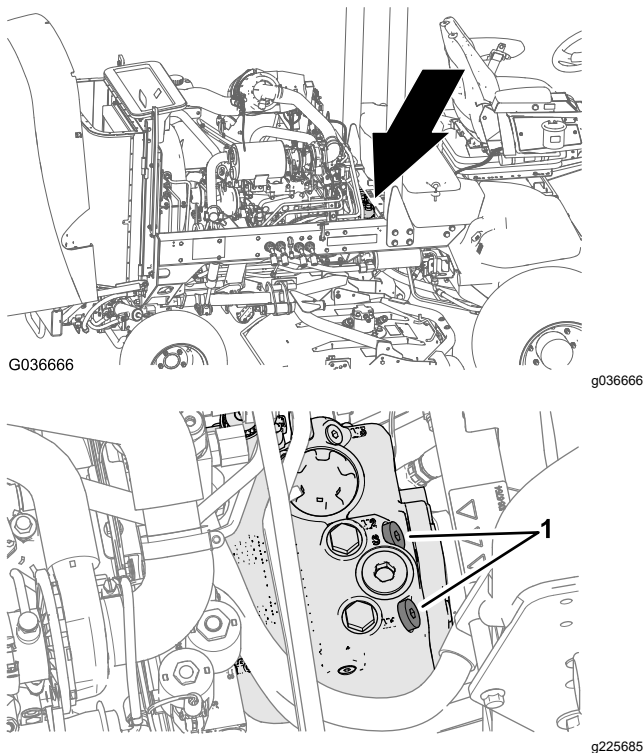

Figure 74
1. Open the hood and locate the relief valves (Figure 74) on the top of pump, behind the battery/storage boxes.